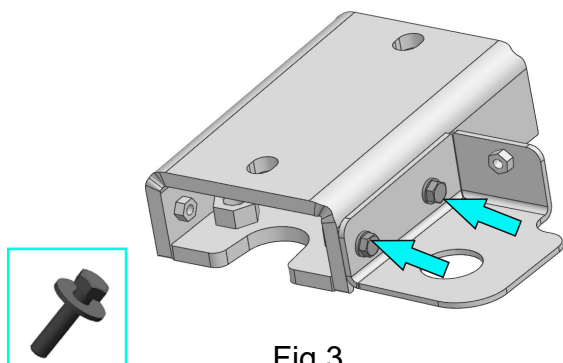

Fig.3
3. Install intercooler bracket (item J) on recovery point bracket (item I) and fix using bolts M6x20, washers 6 (item A, D) (fig.3).